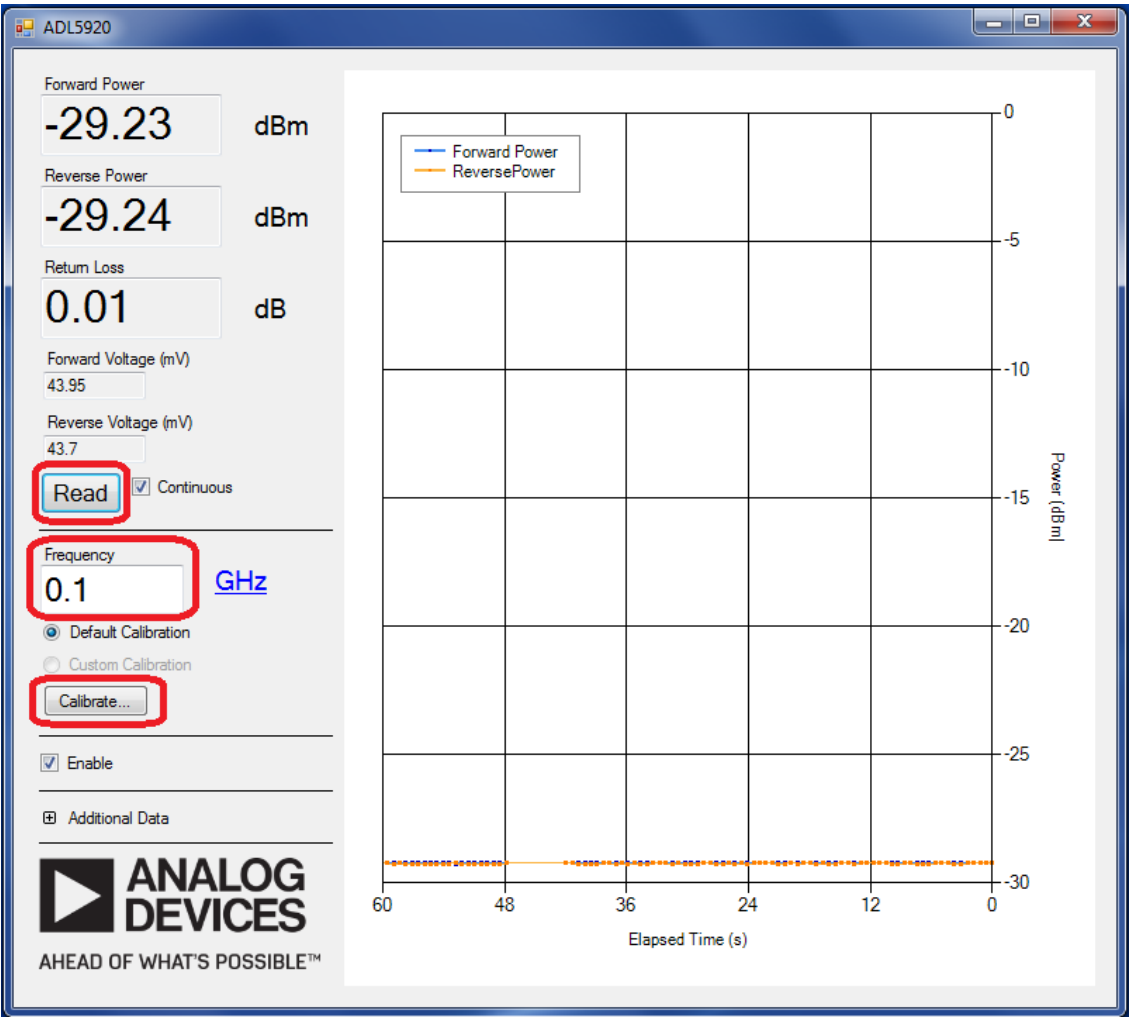

Figure 2: User Interface
8. Open quikeval, set frequency, click "READ" to measure forward and reverse RMS power using default calibration. See Figure 2.